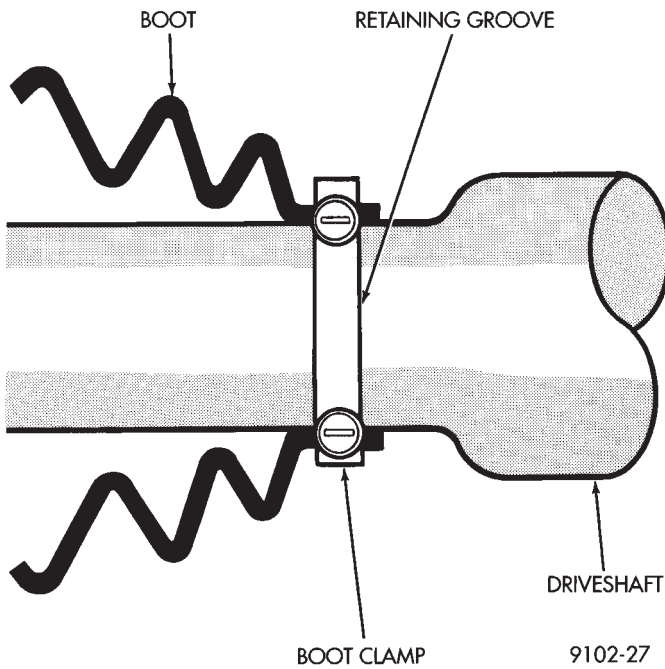

Fig. 1 C/V Joint Boot Positioning G.K.N.
(1) Slide the small end of the boot over the shaft. Position the boot to the edge of the locating mark or groove, whichever is appropriate (Fig. 1).
(2) Install the C/V joint. See Inner or Outer C/V Joint Assemble.